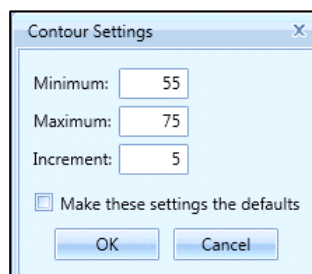

Figure 5-34 Contour Settings Dialog
3. The *Contour Settings* dialog is displayed (Figure 5-34).